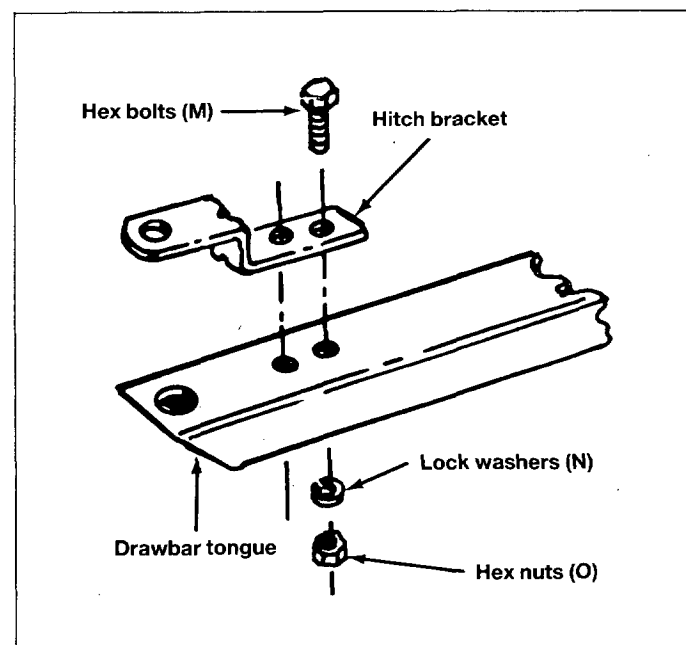

Fig. 14
19. Assemble hitch bracket to drawbar tongue, using 3/8"×1" (10×25 mm) long hex bolts (M), lock washers (N) and hex nuts (O). See figure 14.